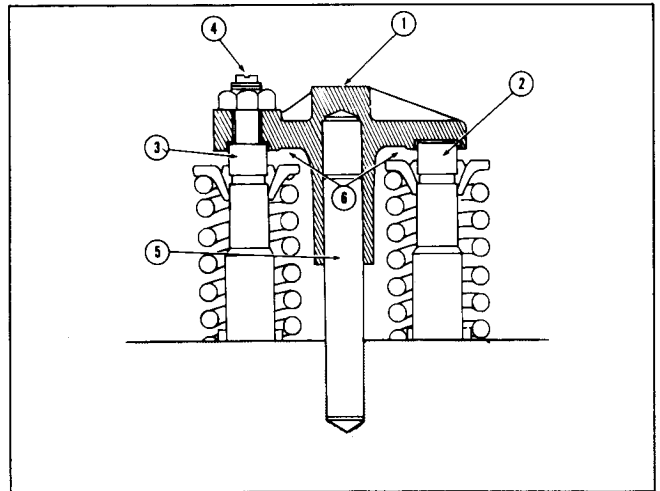

Fig. 2-56, (K21924). Valve crosshead
1. Loosen valve crosshead adjusting screw locknut and back off screw (4, Fig. 2-56) one turn.
- Loosen adjusting screw locknut, back off screw (4, Fig. 2-56) one turn.
- Use light finger pressure at rocker lever contact surface (1) to hold crosshead in contact with valve stem (2). Adjusting screw should not touch valve stem (3) at this point.
- Turn down adjusting screw until it touches valve stem (3).
- Check clearance (6) between crosshead and valve spring retainer with wire gauge. There must be a minimum of 0.025 inch [0.64 mm] clearance at this point.